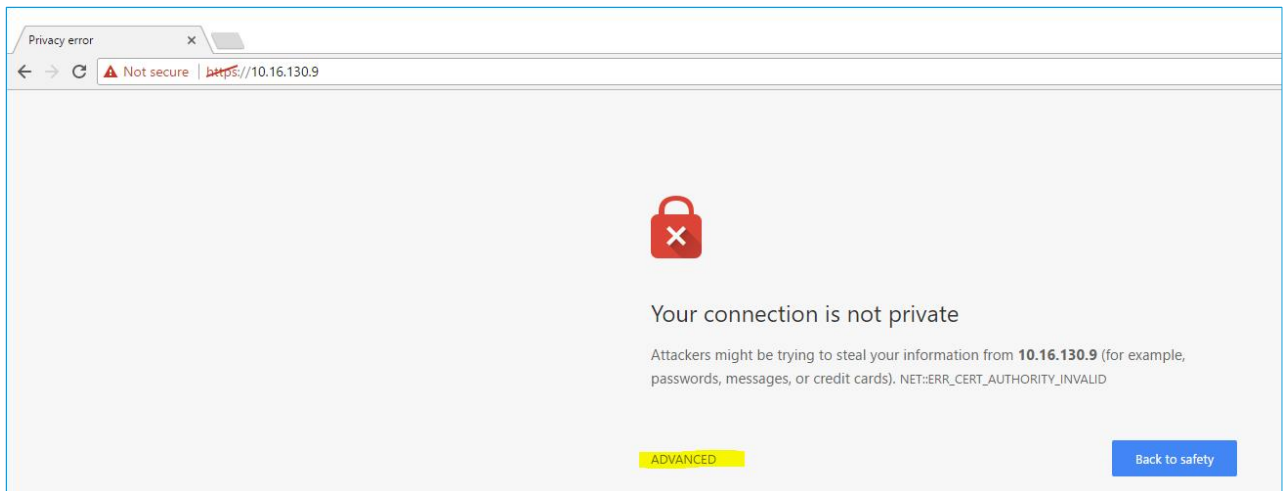

Figure 9: Web interface – first screen
4. Click **Advanced** (Figure 9).